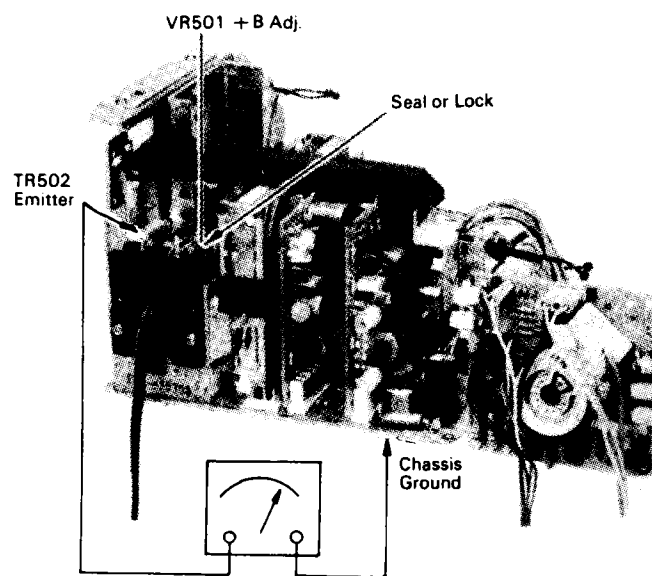

FIGURE 1
1.0 +127V ADJUSTMENT (See Fig. 1)